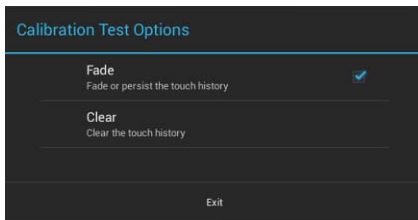

FIG. 29 Calibration Test Options window
4. For options when testing the calibration of the touch panel, select **Options** to open the *Calibration Test Options* window (FIG. 29).